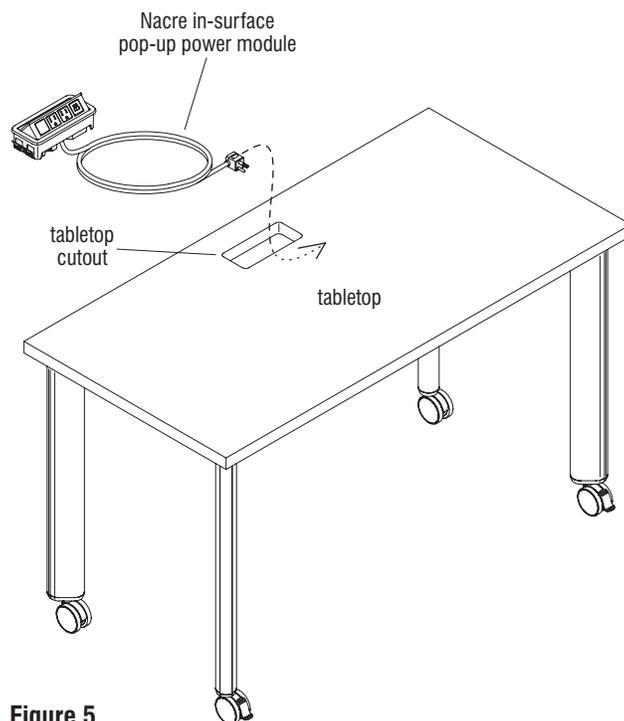

Figure 5
2. With the assembled table in the upright position, orient the Nacre in-surface pop-up power module as shown and route the plug end down through the tabletop cutout. Press the module down firmly into the cutout to secure in place, making sure the two clips on each side of the module catch under the cutout bottom edge of the tabletop (Figure 5 & Detail N).